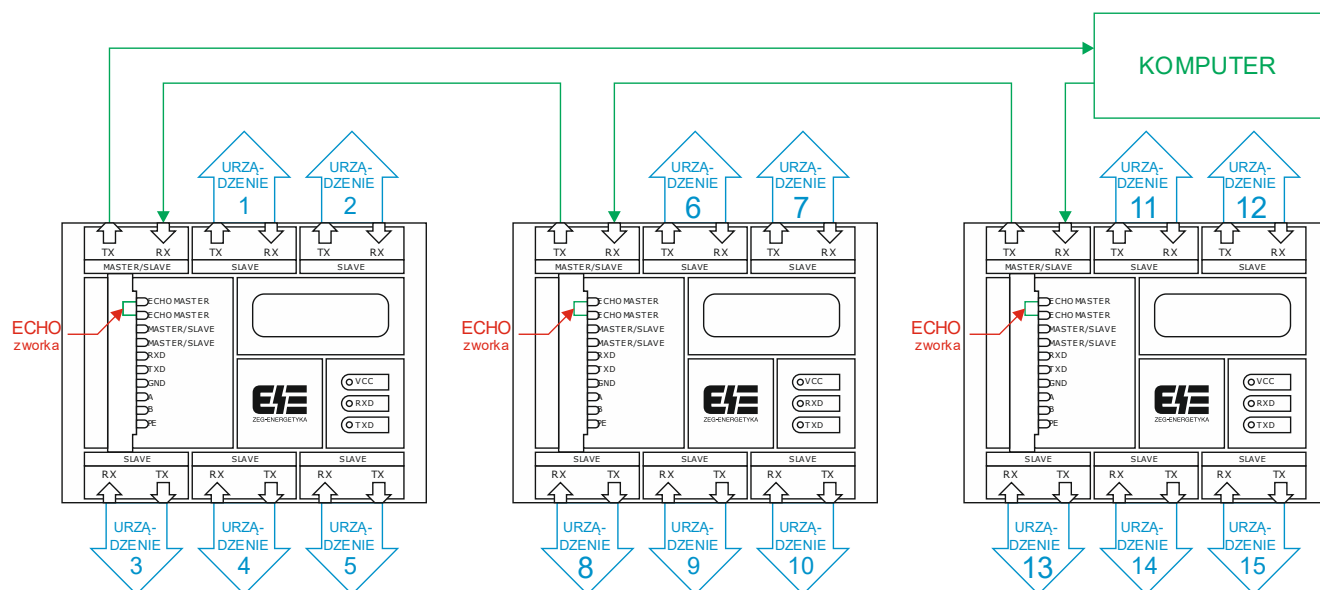

Fig. 3. Wiring diagram of connection of OPG-6 devices in serial loop with ECHO ON
- OPG-6 MASTER port with ECHO OFF what allows to connect any number of devices without losing one of SLAVE ports. OCHO functions makes connection of RXD and TXD in master channel (Fig. 3)